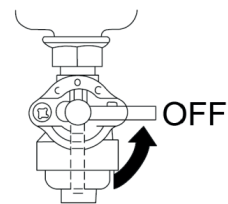

Fig. 14
### - Normal stop (Fig. 14)
3. Turn the fuel cock lever to the “OFF” position. (Fig. 14)